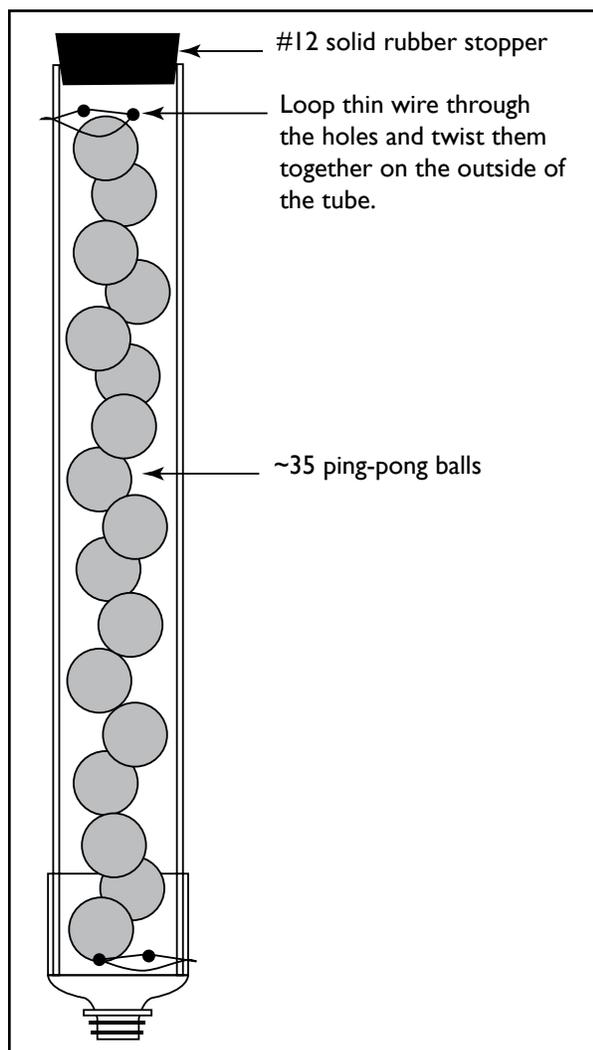

Figure 4. Inserting ping-pong balls into the acrylic tube.
8. Insert about 35 ping-pong balls into the large acrylic tube. The exact number of balls is determined by making sure that the top of the highest ball is about 1.5–2.5 cm (1/2–1 in) below the drilled holes (Figure 4).
9. Cut 30 cm (1 ft) of thin wire and loop it through the two holes at the top of the acrylic tube. Twist the ends together on the outside of the tube to hold the wire in place. Trim excess wire using wire cutters (Figure 4).